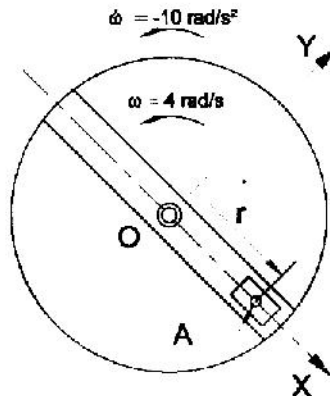

Figure 2
b) At the instant represented (figure 2) the disc with the radial slot is rotating about 'O' with CCW angular velocity of 4 rad/s, which is decreasing at a rate of 10 rad/s². The motion of the slider 'A' is separately controlled and at this instant $r = 150$ mm, $\dot{r} = 125$ mm/s, $\ddot{r} = 2025$ mm/s². Determine the absolute velocity and acceleration of 'A' for this instant. Draw velocity and acceleration polygon (not to the scale).